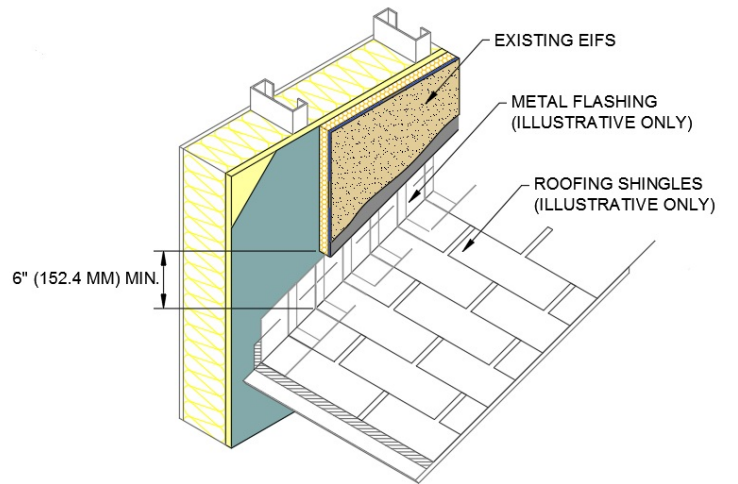

Figure 2
1. Cut into the EIFS a minimum 6 in (152 mm) above the roofline, using a circular saw with a carborundum blade. The blade should be set to a depth that is slightly less than the combined thickness of the lamina and EPS to avoid damaging underlying materials. Remove cut area. (See Figure 2). **NOTE: Allow for a minimum of 2 in (51 mm) clearance between the EIFS termination and the roof assembly.**